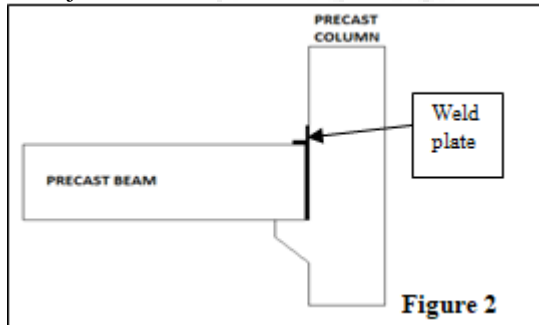

Figure 2
- a) **Dry Joints:** Joint accomplished by simple placing of two members by means of welding or fastening, figure. 2 shows the dry joint